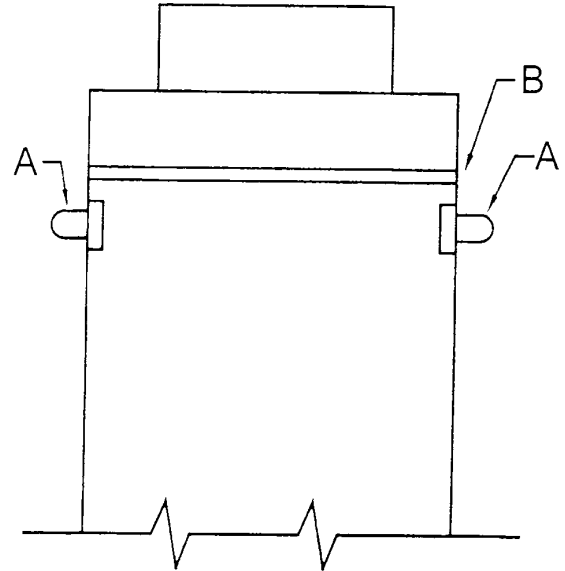

FIGURE 1
1. Identify which existing flap you have. If your old flap has two small spigots either side which fit into the door and act as the hinge, you should cut the top of the new flap away using a Stanley knife, see Figure 1, marked B. The flap can then be easily fitted by bending it and pushing the spigots into the existing holes in the door.
2. If you have the flap, which is held on by two rivets, you should cut the side spigots and bosses off your new flap, see figure 1, marked A. Drill out the old rivets using a 4mm drill bit. Clean the area with warm water.